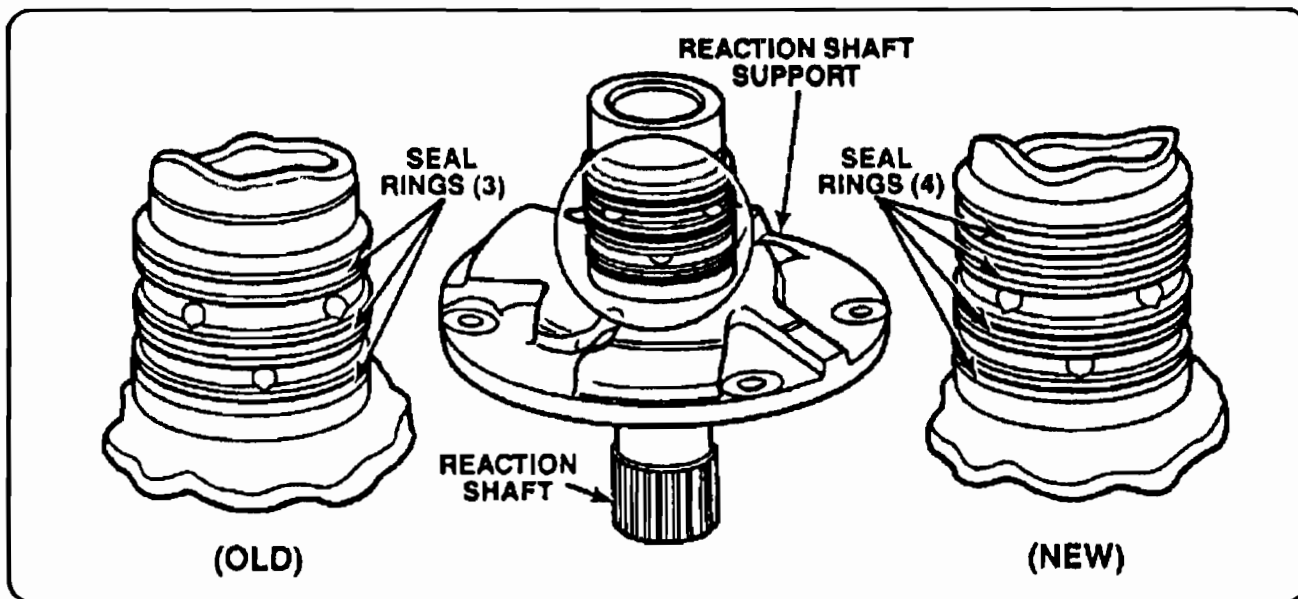

Figure 1
**CHANGE:** Beginning in April, 1989 a new Reaction Shaft Support (Stator) was introduced, with the addition of another ring groove and sealing ring. The old support has 3 sealing rings, and the new support has 4 sealing rings (See Figure 1).
- (1) REACTION SHAFT SUPPORT - The new support is longer, and has 4 sealing rings, where the old support only has three (See Figure 1).